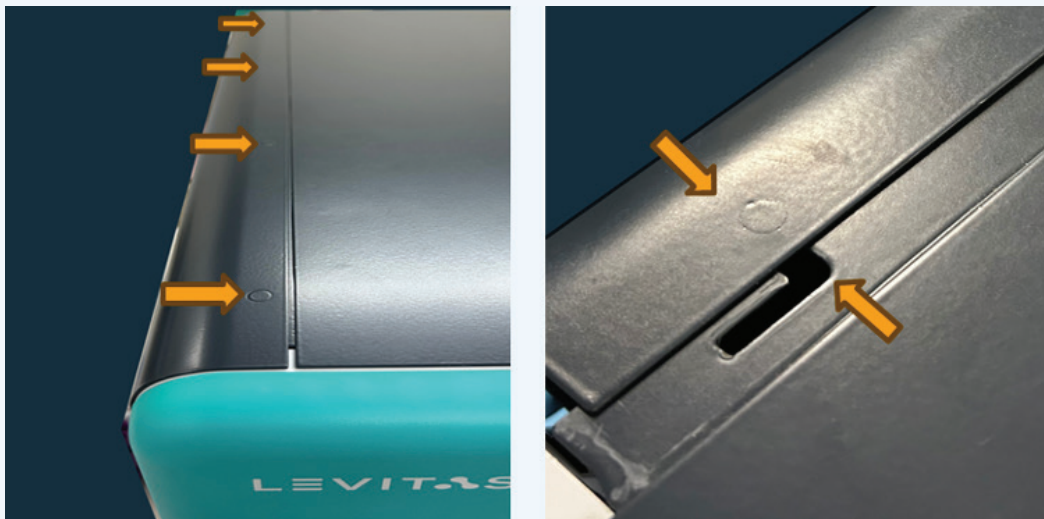

Figure 13. LeviCell EOS Side Panel Alignment.
- 6. Restore the side panel to its initial position by aligning the visible stud marks of the panel with the slots on the instrument and attach the thumbscrews securing the side panel to the rear of the instrument, as shown in Figure 13.